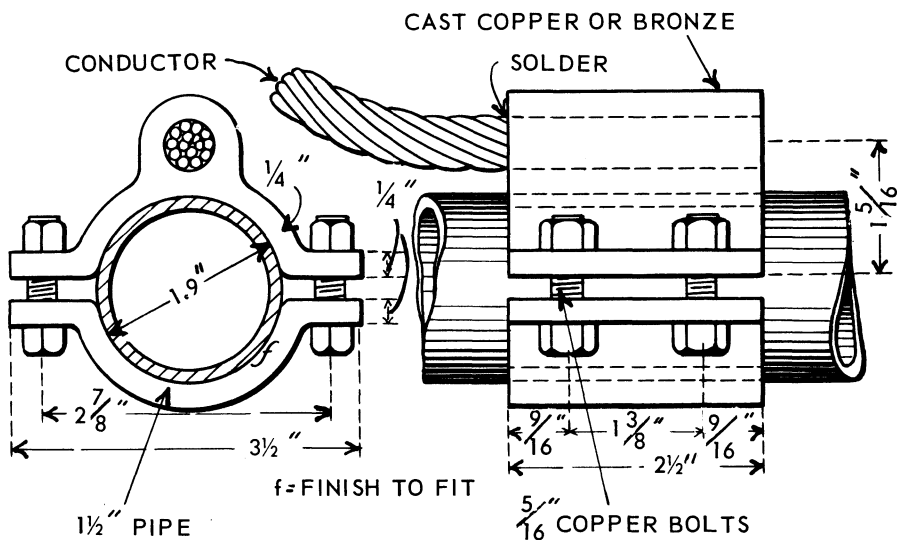

Figure 14.—Ground to a metal water pipe.
- By clamping the conductor cable to a metal water pipe (fig. 14).
nections should be made with a clamp designed for this purpose (fig. 14). Individual metal casings of the deep-well type, make excellent ground connections.